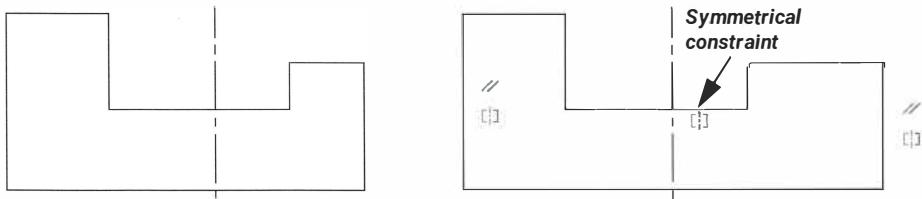

Figure 4–13
3. Select the symmetry line. The objects move into symmetry about the symmetry line, as shown in Figure 4–13.